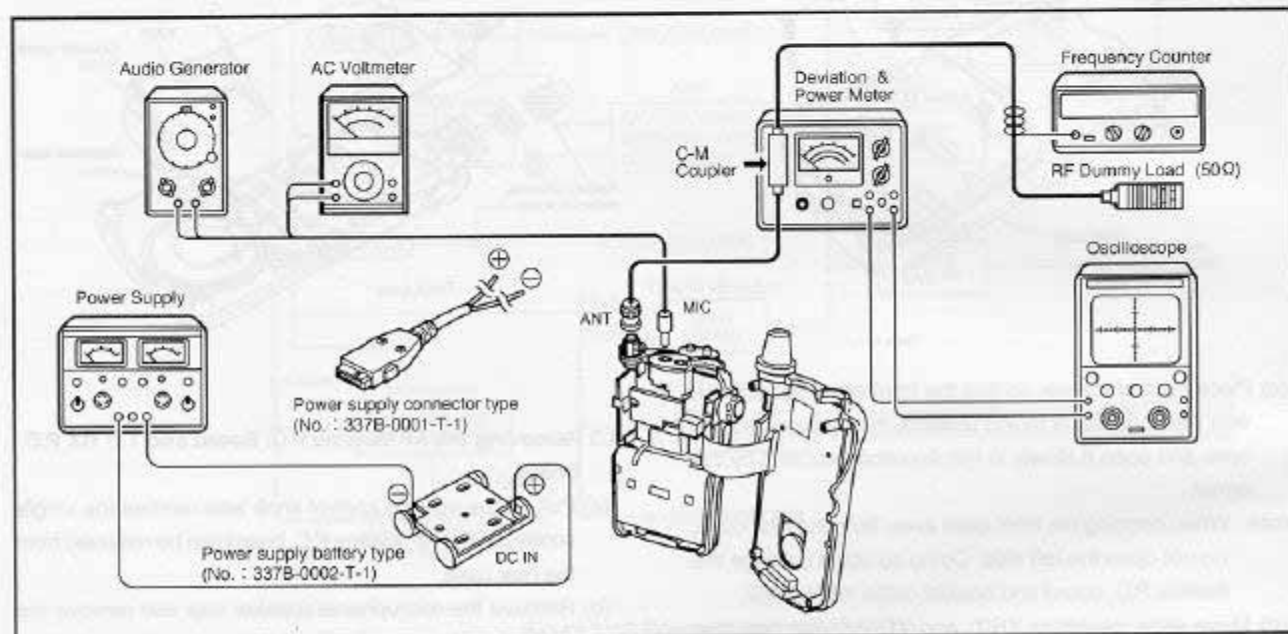

Figure 5-1 Transmission connection diagram
(1) UHF band
- Apply an 8.4 V voltage from interface jack YD02 to the transceiver. (Use the power supply connector type. See figure 5-1)
(2) VHF band